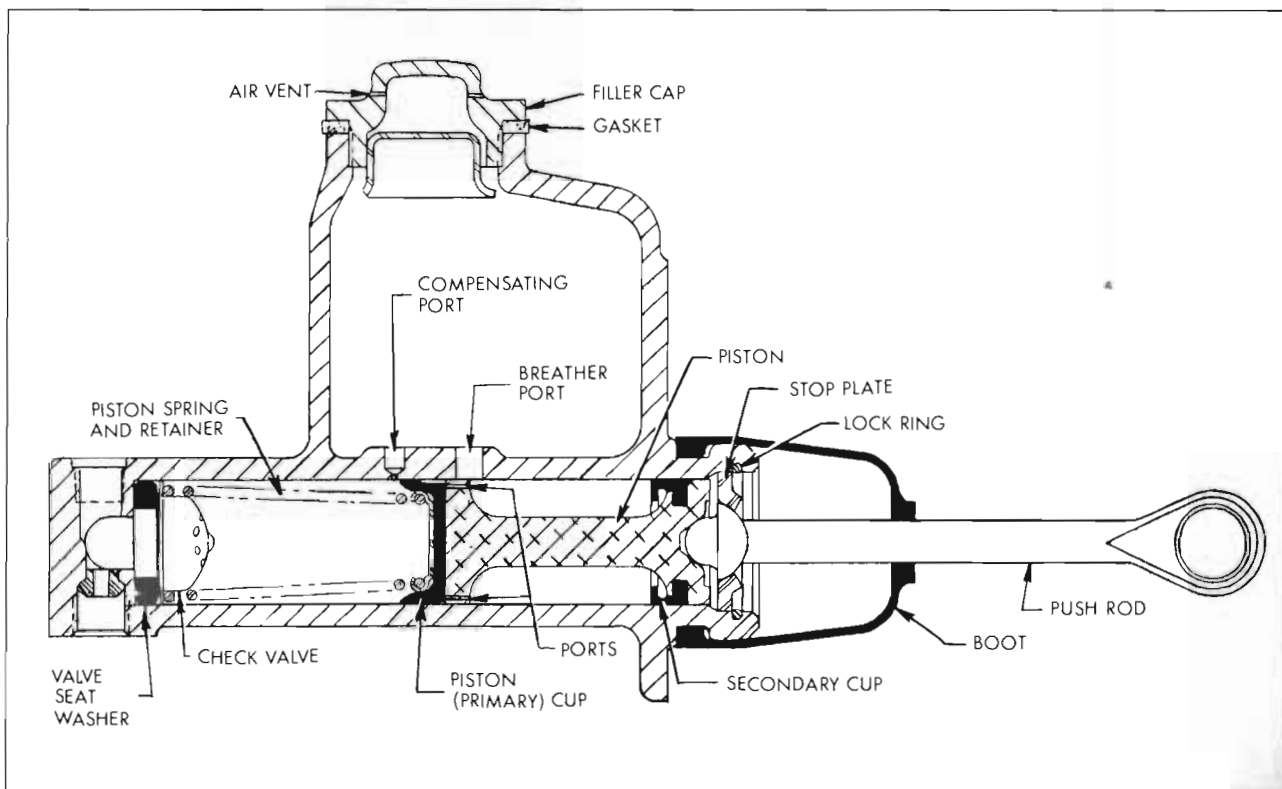

Figure 9-11—Standard Brake Master Cylinder
1. Remove rubber boot. Remove lock ring, then remove push rod with stop plate. See Figure 9-11.